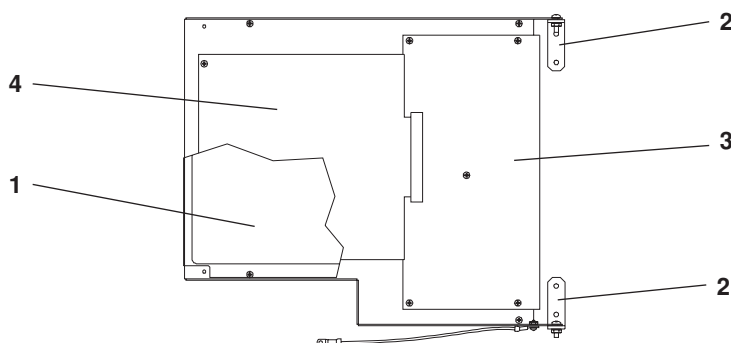

Figure 6-2 HT2000LHF Power Supply – THC Assembly
** Used only in HT2000LHF power supplies with the THC option – see Figure 6-2